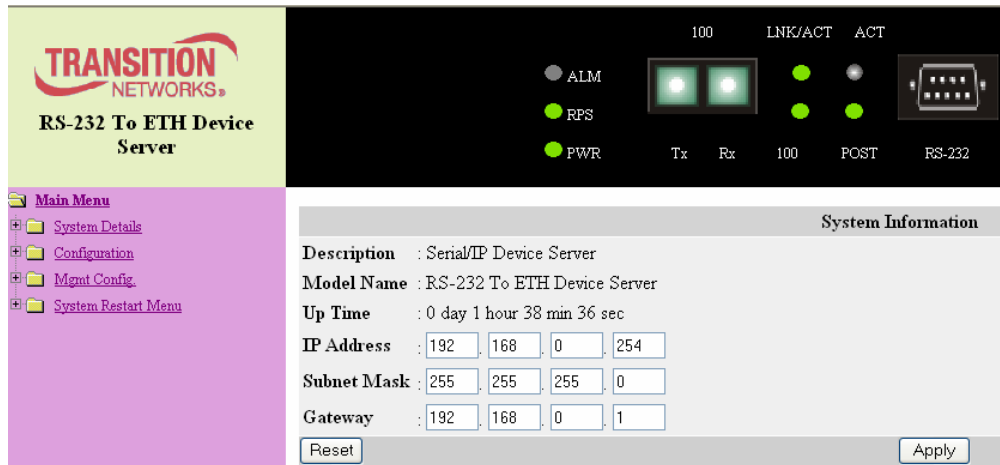

Figure 17: Main Menu Screen
3.	Click the OK button to launch the Device Server’s graphical user interface (GUI) main menu screen, shown in Figure 17.